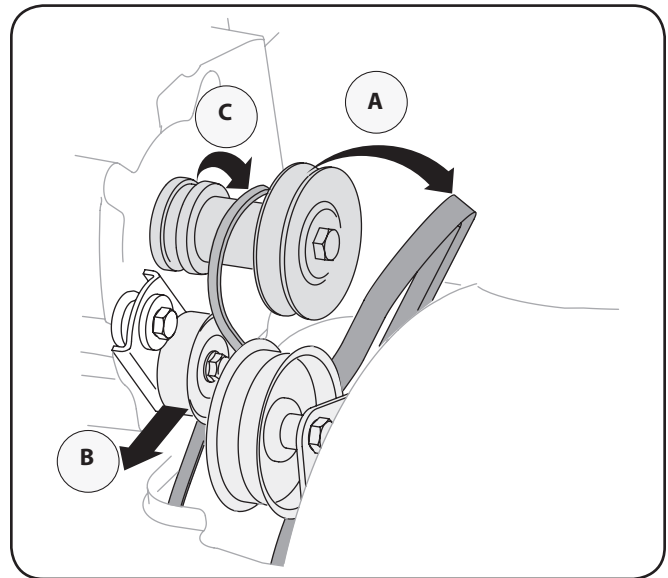

Figure 7-6
- Pivot the idler pulley toward the right. See Figure 7-6.